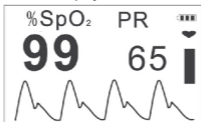
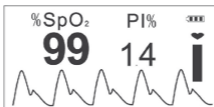

Figure 9A Default Screen Display
Figure 9C
5. The oximeter will automatically start measurement in 2 seconds. Then the default screen will be displayed (Figure 9A). User can read the values and view the waveform from the display screen.
- Short press “**■**” key to switch display modes circularly, display screen will be switched among the three measure screens displays as shown in Figure 9A, Figure 9C and Figure 9D.
- The measurement will start automatically when the finger is inserted into the SpO₂ probe, so the data recording (SpO₂ and PR value) starts simultaneously as well. The display is as shown in Figure 9A.